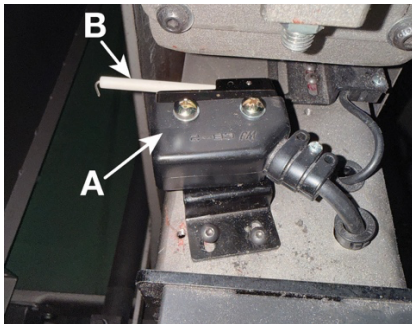

Figure 9-21
2. Visually inspect each mistracking limit switch (A, Figure 9-21). Make sure the switches are properly installed and aligned. The space between each switch's ceramic arm and the edge of the belt should be 3/8 in. to 9/16 in. (10- 15mm). Make sure the ceramic arm (B, Figure 9-21) is not missing or damaged. If the ceramic arm is missing or damaged, replace the limit switch immediately.